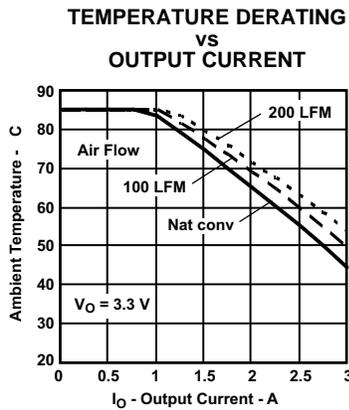
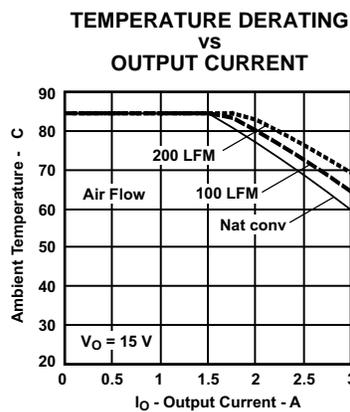

Figure 15.
Figure 18.
- (2) The temperature derating curves represent the conditions at which internal components are at or below the manufacturer's maximum operating temperatures. Derating limits apply to modules soldered directly to a 100 mm x 100 mm, double-sided PCB with 2 oz. copper. Applies to Figure 15 through Figure 18.